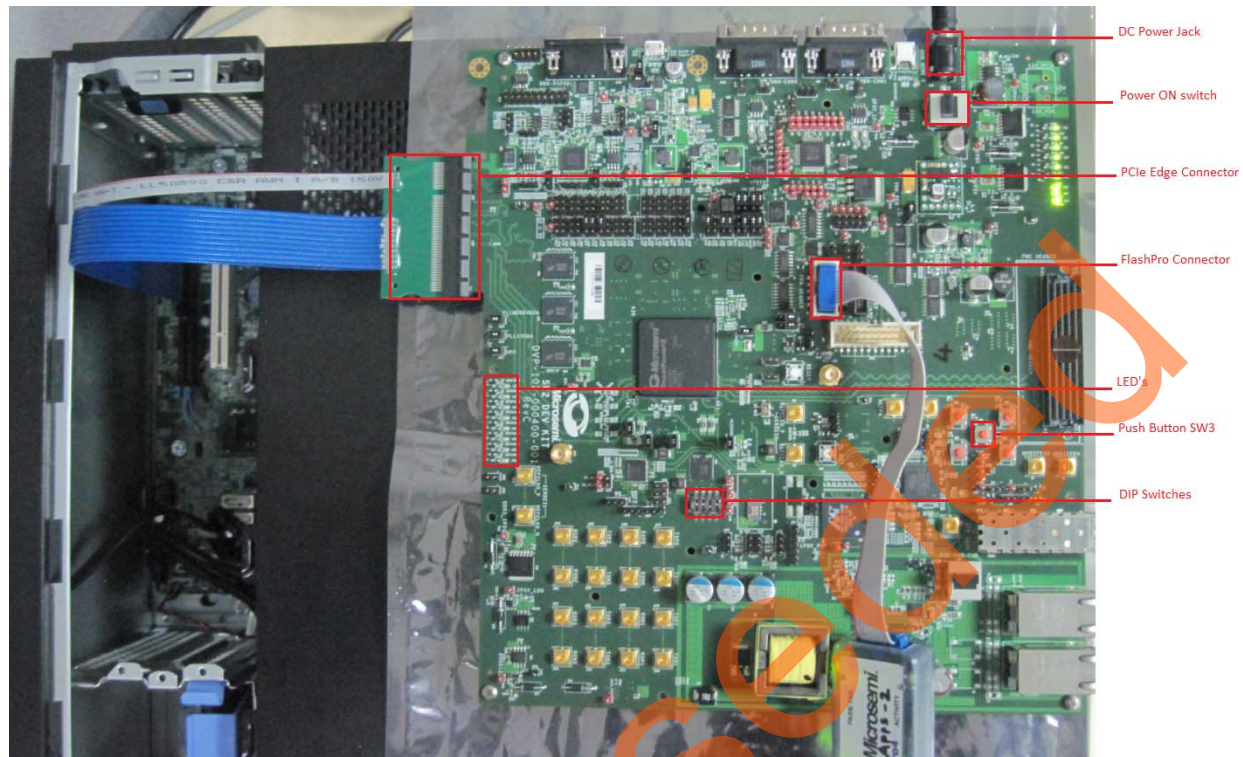

Figure 6 • SmartFusion2 Development Kit Setup
- The board setup is shown in Figure 6.